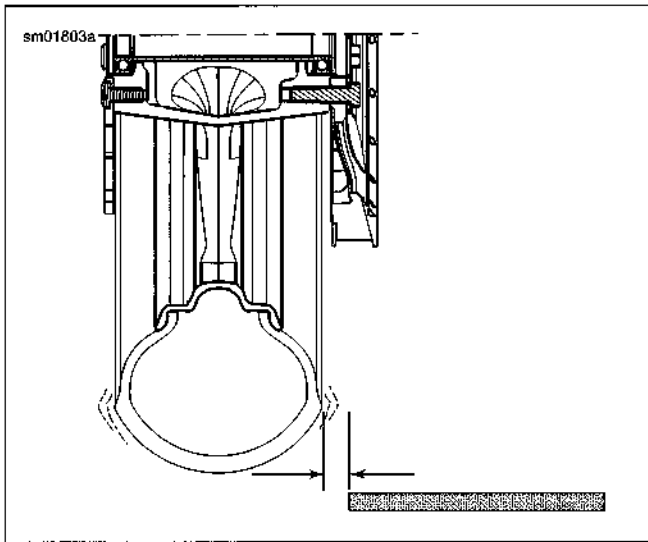

Figure 2-5. Tire Lateral Runout
2. See Figure 2-5. Turn the wheel on the axle and measure tire lateral runout from a fixed point to a smooth area on the tire sidewall. Avoid measuring on raised letters or vents.